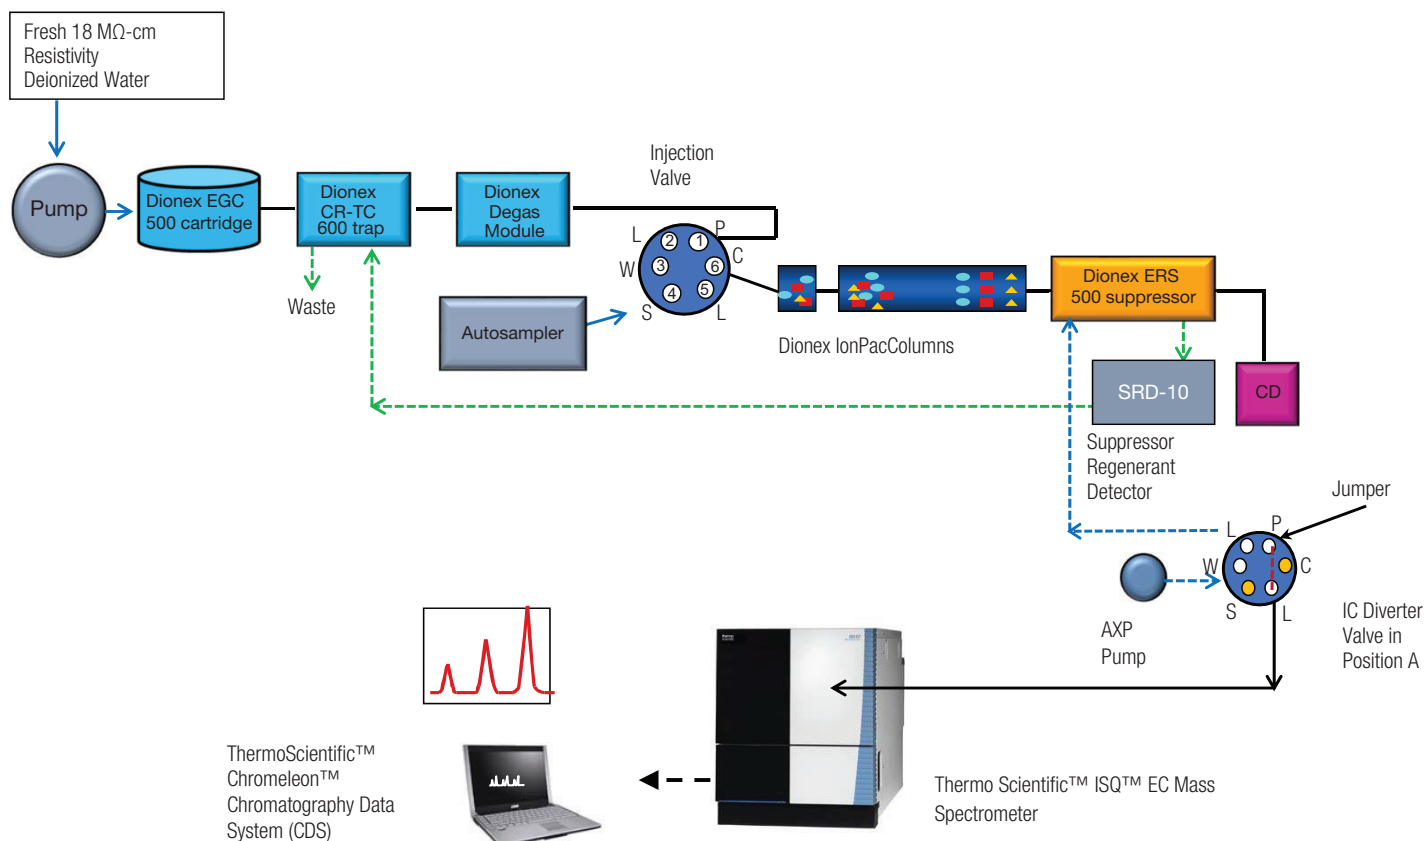

Figure 1. Flow diagram for IC-MS with diverter valve in “A” position
To set up this system, first connect the Dionex AS-AP autosampler and the Dionex Integrion HPIC system according to Figure 1 and TN175 - *Configuring the Dionex Integrion HPIC System for High-Pressure Reagent-Free Ion Chromatography*.¹ A small piece of red PEEK tubing (< 5 in. of 0.005 in. i.d.) called a “jumper” in Figure 1 is installed in the IC Diverter valve connecting Ports 1 (L) to 3 (C). Install the AXP drivers included with the pump on the IC-MS instrument computer as described in the AXP pump operator’s manual.² The AXP pump provides MS calibrant at 0.05 mL/min flow during MS calibration. To aid in calibration and provide pulse damping, install a Thermo Scientific™ Dionex™ IonPac™ GM-3 gradient mixer (P/N 042126) and two yellow PEEK (0.003 in i.d.) backpressure coils (rated 1000 psi at 0.5 mL/min, P/N 053765) on the pump outlet. Run the AXP pump at 1 mL/min until liquid is flowing at a steady rate through the end of the tubing. It is recommended that the MS and the MS modules (nitrogen generator and the mechanical vacuum pump (foreline vacuum pump)) are not powered on until the IC is fully installed and configured by Chromeleon Instrument Configuration programs. Additionally, nitrogen gas flow is needed before connecting the IC flow to the MS.